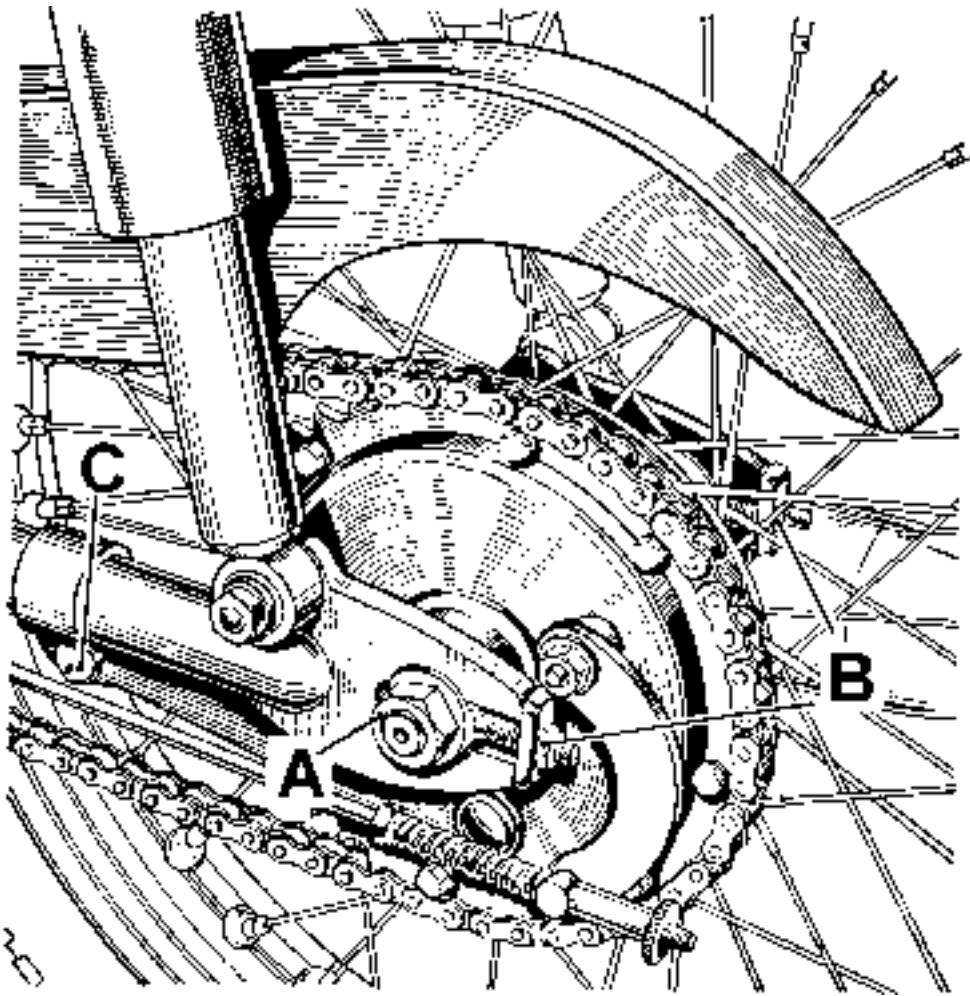

FIG. 9. *Rear Chain Adjustment.*
The rear chain is adjusted by means of screw adjusters in the fork ends at the back of the wheel spindle. First slacken off the knurled rear brake adjusting nut, as the brake rod may prevent free movement of the wheel. It is not necessary to disturb the speedometer drive unit. Slacken off nuts (A) Fig. 9, and screw the adjusters (B) in or out until the chain tension is correct.